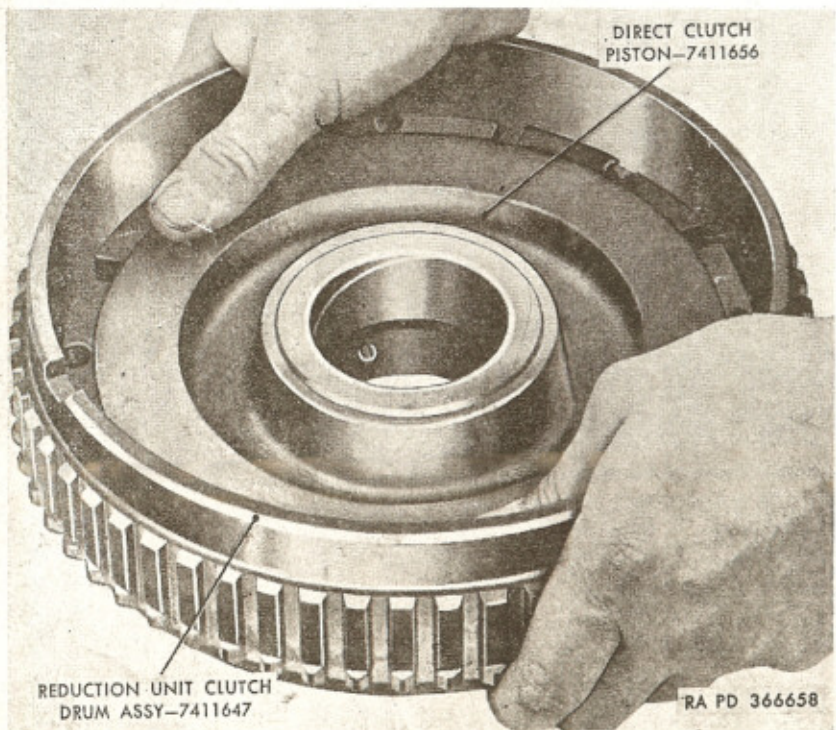

Figure 213. Installing direct clutch piston assembly in reduction unit clutch drum (303M).
f. Install direct clutch piston assembly over hub of reduction unit clutch drum while revolving and applying downward pressure on direct clutch piston. Be sure piston is at bottom of its bore; then revolve piston until square notches in piston align with tapped holes in reduction unit clutch drum assembly (fig. 213).